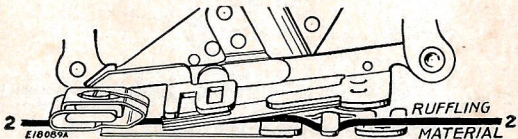

FIG. 75. CORRECT POSITION FOR THE MATERIAL
- (2) When the desired space is made, set the projection **D** in either of the slots "6" or "12"
- (3) Insert the material to be pleated between the two blue blades **Line 2, Fig. 75.**